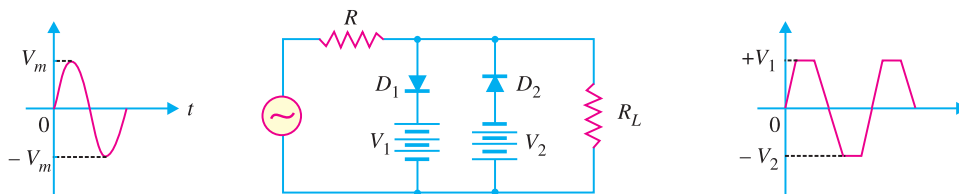

Fig. 18.27
**(iii) Combination clipper.** It is a combination of biased positive and negative clippers. With a combination clipper, a portion of both positive and negative half-cycles of input voltage can be removed or clipped as shown in Fig. 18.27.